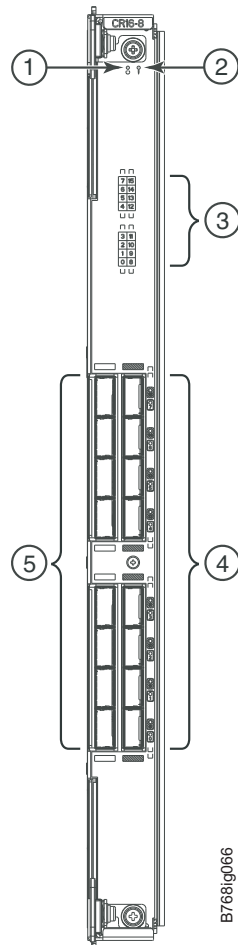

Figure 27. Core switch blade (CR16-8), LEDs and QSFP connectors
1. Check the LED indicators on the core switch blade (Figure 27 on page 73). The LED patterns may temporarily change during POST and other diagnostic tests; for information about how to interpret the LED patterns, see Table 9 on page 73.
Figure 27 identifies the core switch blade and its components